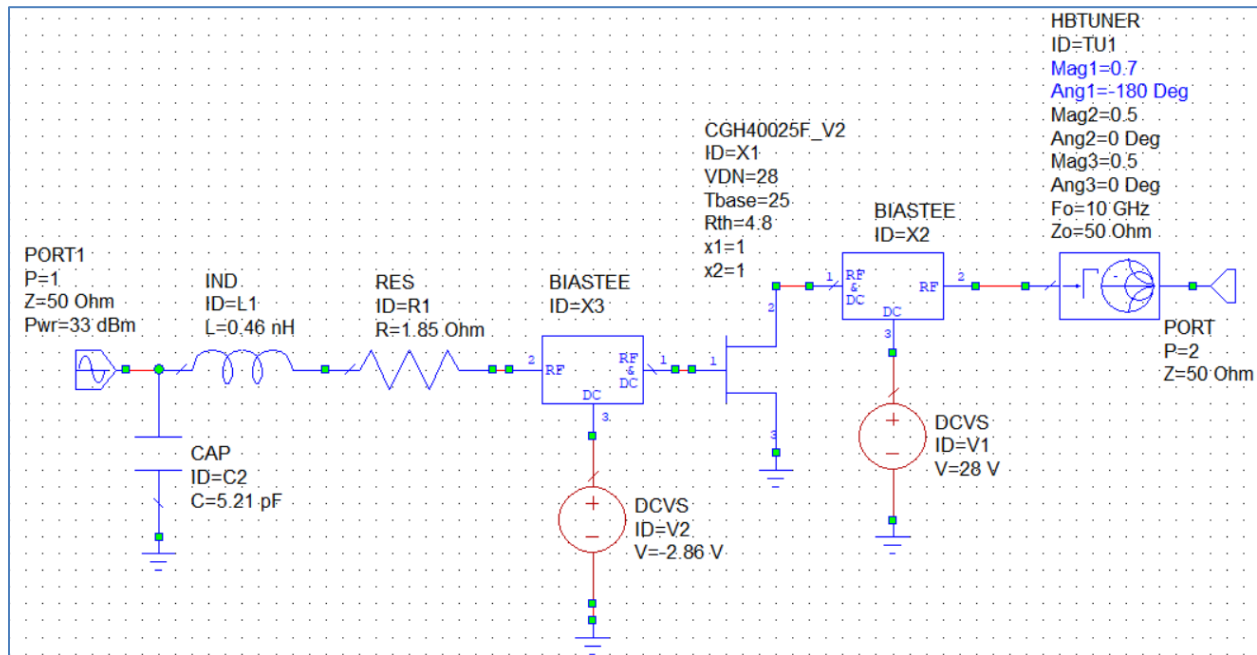

Figure 1
1. Create the schematic shown in Figure 1.: